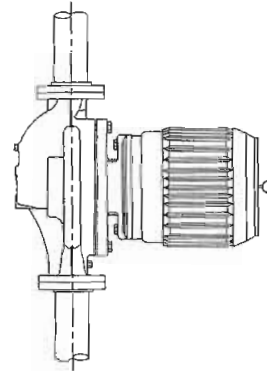

Fig. 2.8 Horizontal Mounting
- 2.8. Close coupled in-line units (Series 4360 & 4380) up to 15 hp / 11 kW may be installed with the shaft horizontal. (Fig. 2.8) For horizontal mounting of large units or Series 4300 Split-Coupled style consult the factory.